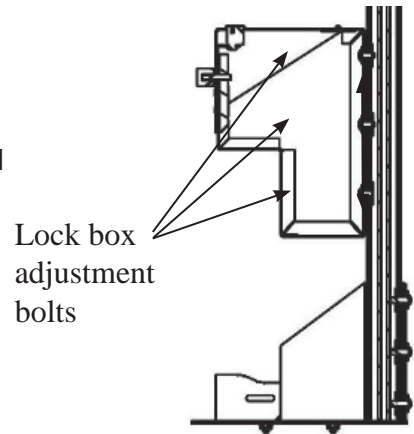

Fig. 3
- A. Open the lock box and loosen the bolts with a 7/16" socket and extension wrench to adjust the box up or down as needed. (Swivel attachment is required) Install supplied black felt over bolts when box position has been fixed. (Fig 3)